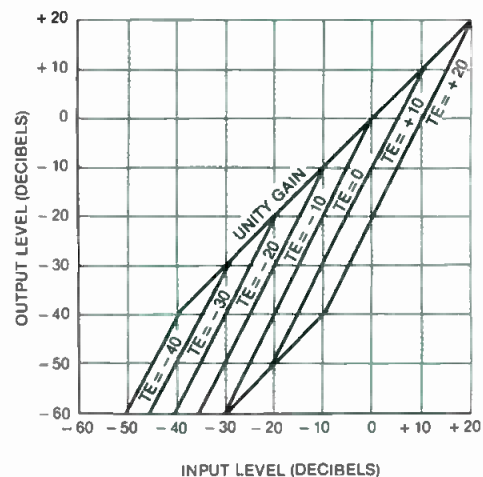

Figure 1. The effect of the threshold control as a transfer function. The slope is set to 1:2 (TE = threshold of expansion).
- The *threshold* adjustment determines the point below which the device begins to attenuate the signal. If, for example, the threshold is adjusted to 0dB, a signal appearing at the input at 0dB (0.775Vrms) or higher will be passed through the device unattenuated, while those signals below 0dB will be attenuated. (See Figure 1.)